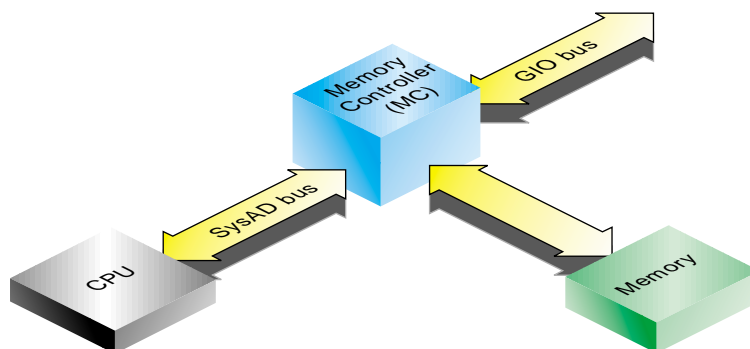

Figure 19-1 The SysAD Bus in Relation to GIO
Beginning with IRIX 5.3, parity checking is enabled on the SysAD bus, which connects the CPU to memory in workstations that use the GIO bus (see Figure 19-1). Unfortunately, with certain GIO cards, errors can occur if memory reads complete before the Memory Controller (MC) finishes calculating parity.